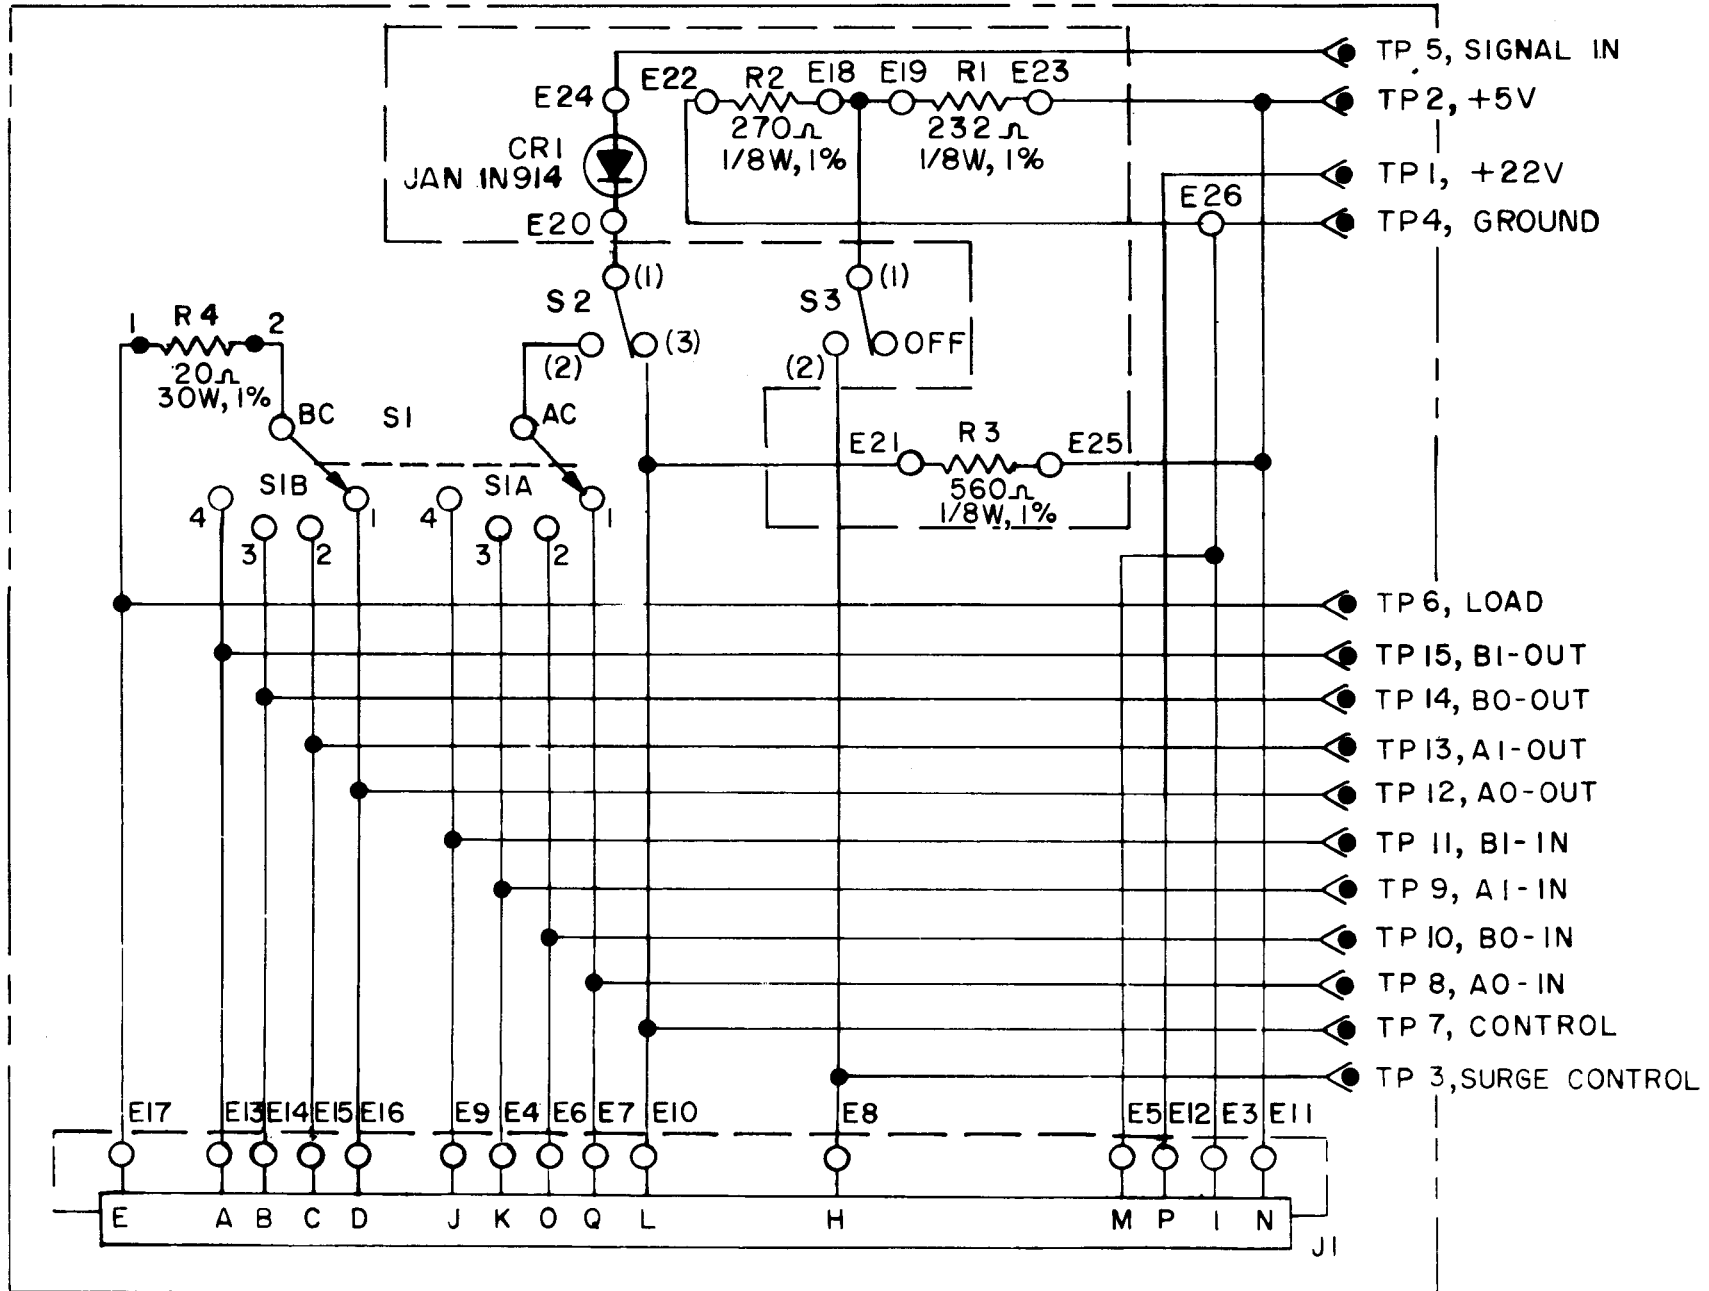

Figure 6-43. LINE FEED/CURRENT CONTROL TEST FIXTURE. SCHEMATIC DIAGRAM.
E. LINE-FEED/CURRENT CONTROL TEST FIXTURE TEST PROCEDURES (fig. 6-43)